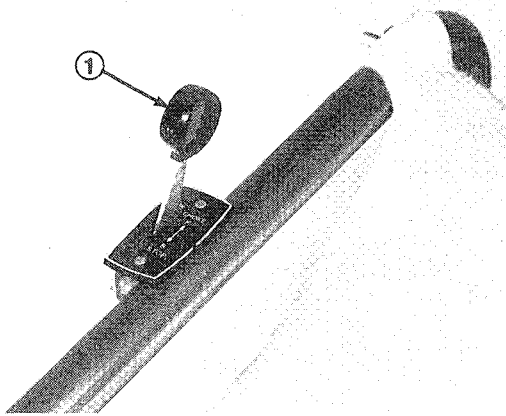

Figure 10
1. Move throttle control to "choke" position (Fig. 10).